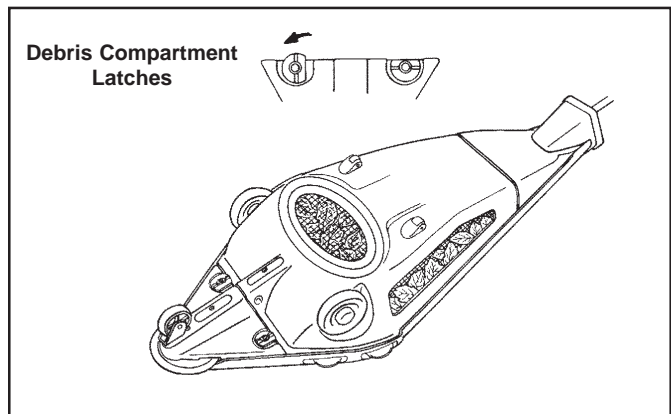

Figure 2. Open Debris Compartment Latches
3. Place the Ray-Vac on its back. Locate the two (2) debris compartment latches. Rotate latch to open position (see Fig 2).